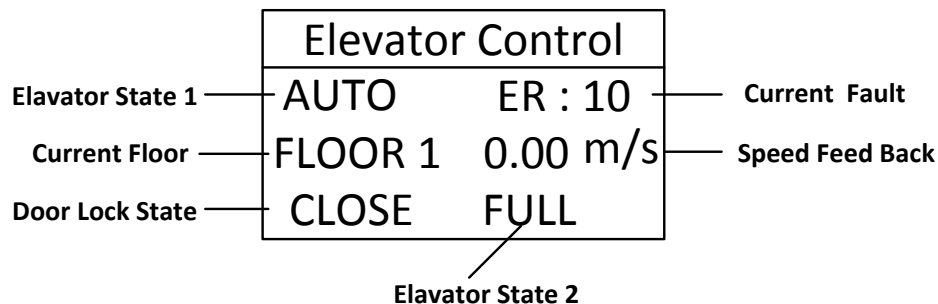

FIGURE 7.1 DIGITAL OPERATOR LCD SCREEN INTERFACE
- c. **(Note: Connect digital operator before power on)** After power on, first see if the main menu display is correct on LCD indicator. For example: elevator state, fault state, door lock state, current floor, running speed and else. In this way we can tell if the controller is working properly and whether 24V power supply is normal. Interface on digital operator LCD screen can be seen below in Figure 7.1.